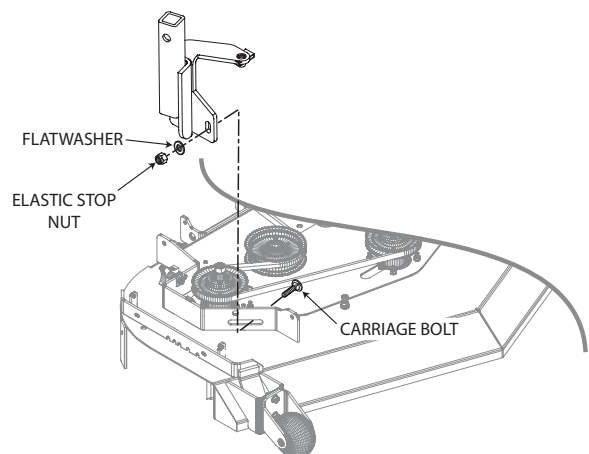

FIGURE 3-3
6. Install the blower mounting bracket to the deck using carriage bolts (p/n 04003-11), lockwashers, and nuts. Do not fully tighten the hardware at this time. See Figure 3-3.